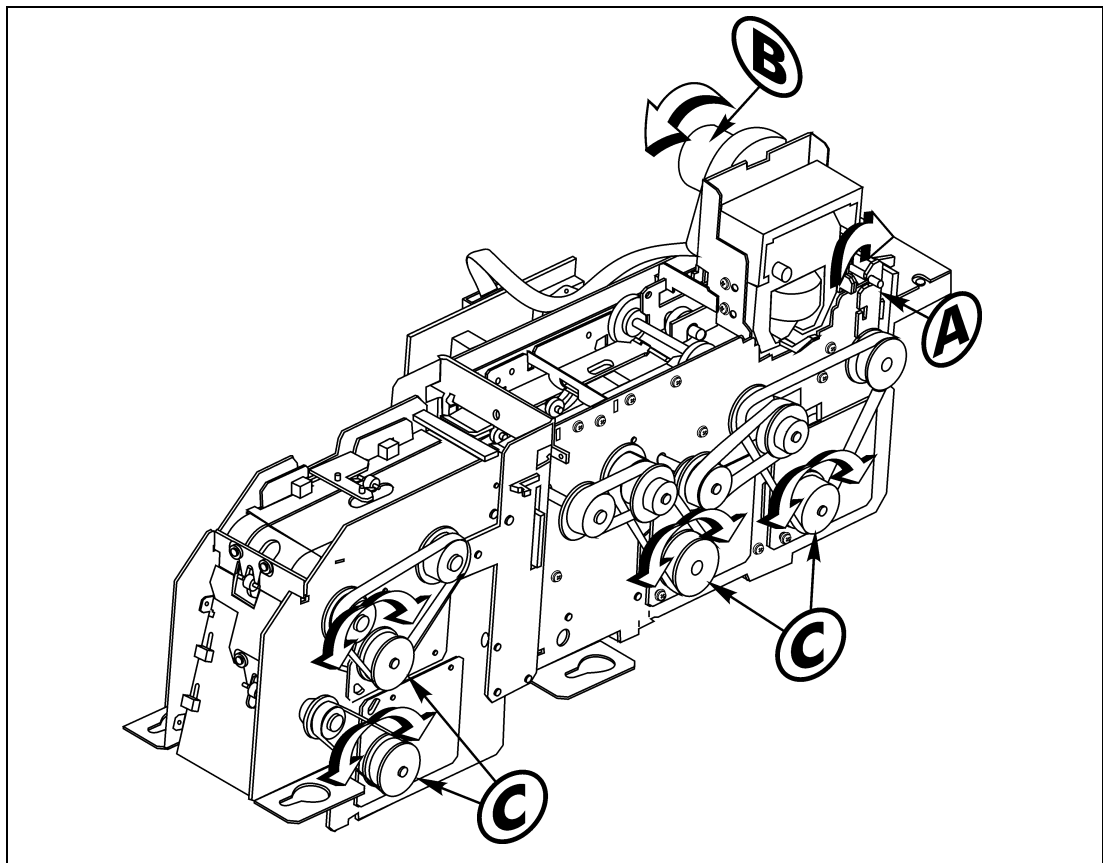

Figure 3-1: Clearing a Ticket Jam
3. Refer to Figure 3-1 below to locate the Printer Release Latches (A) on both sides of the printer. Pull both of the latches forward to release the printer.
4. Tilt the printer assembly up and back (B).
5. Locate the plastic motor pulleys on the left side of the RWPV mechanism (C). Rotate each motor pulley to move the ticket towards the front or rear of the mechanism.